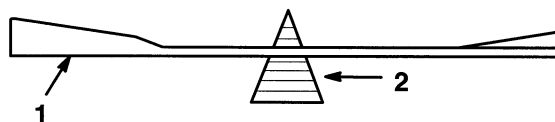

Figure 27
2. Check the balance of the blade by putting it on a blade balancer (Fig. 27). If the blade stays in a horizontal position, the blade is balanced and can be used. If the blade is not balanced, file some metal off the back side of the blade. Repeat this procedure until the blade is balanced.